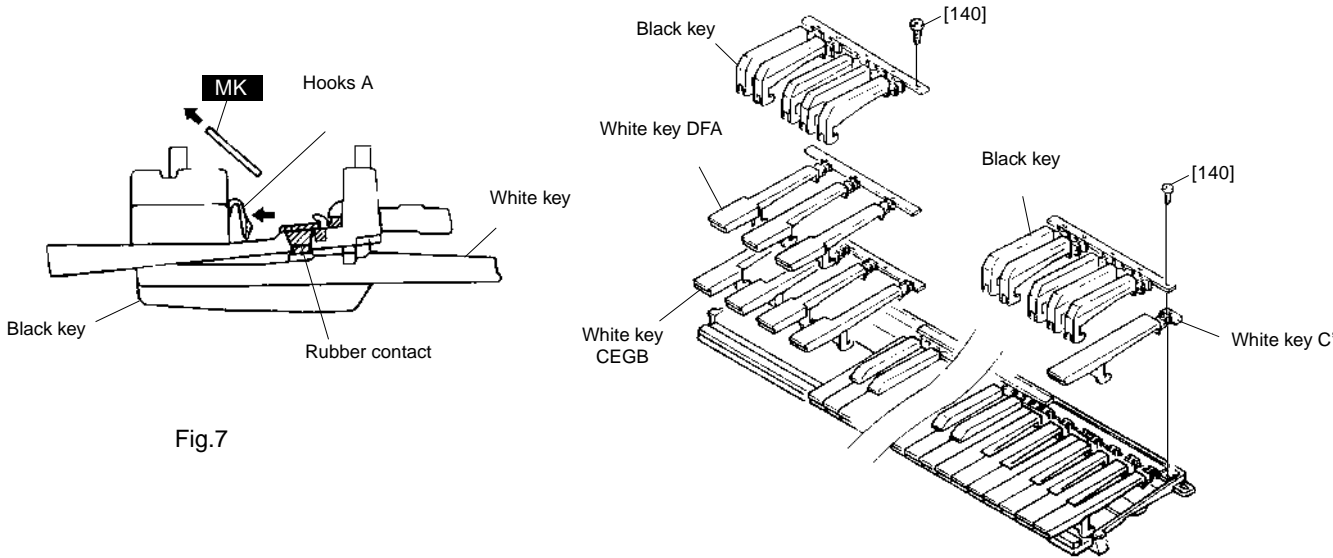

Fig.7
- 16-3 Remove the MK circuit board while pressing the fifteen (15) hooks A inward, and then remove the rubber contact. (Fig.7)